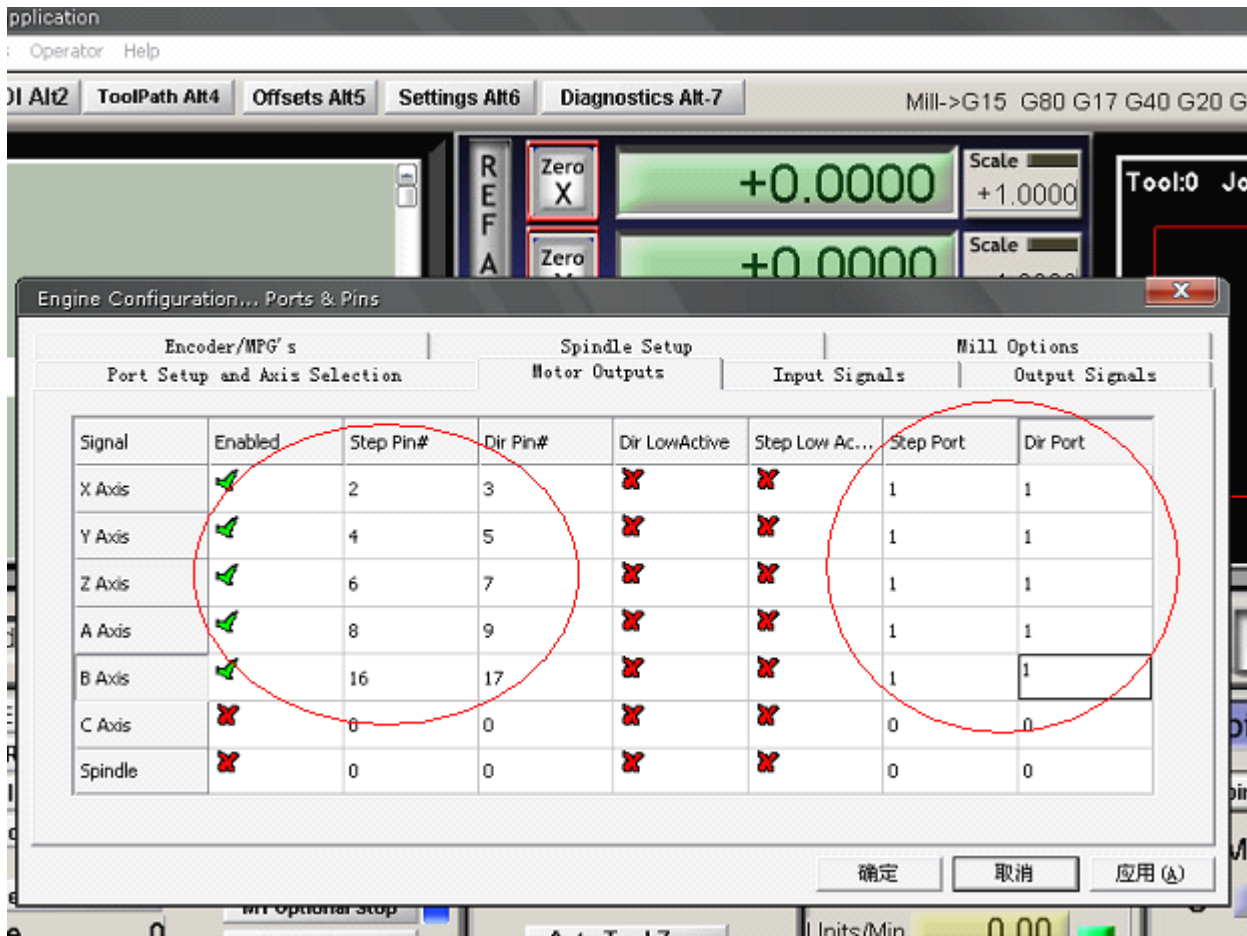

Fig 5 The pin setting of Dir,Step
**Circle 1 is for setting the fundamental frequency, this parameter affect the motor rotation speed. Set up and select Circle 2, then will shown in below Fig5 to set up the Pulse and Direction.**